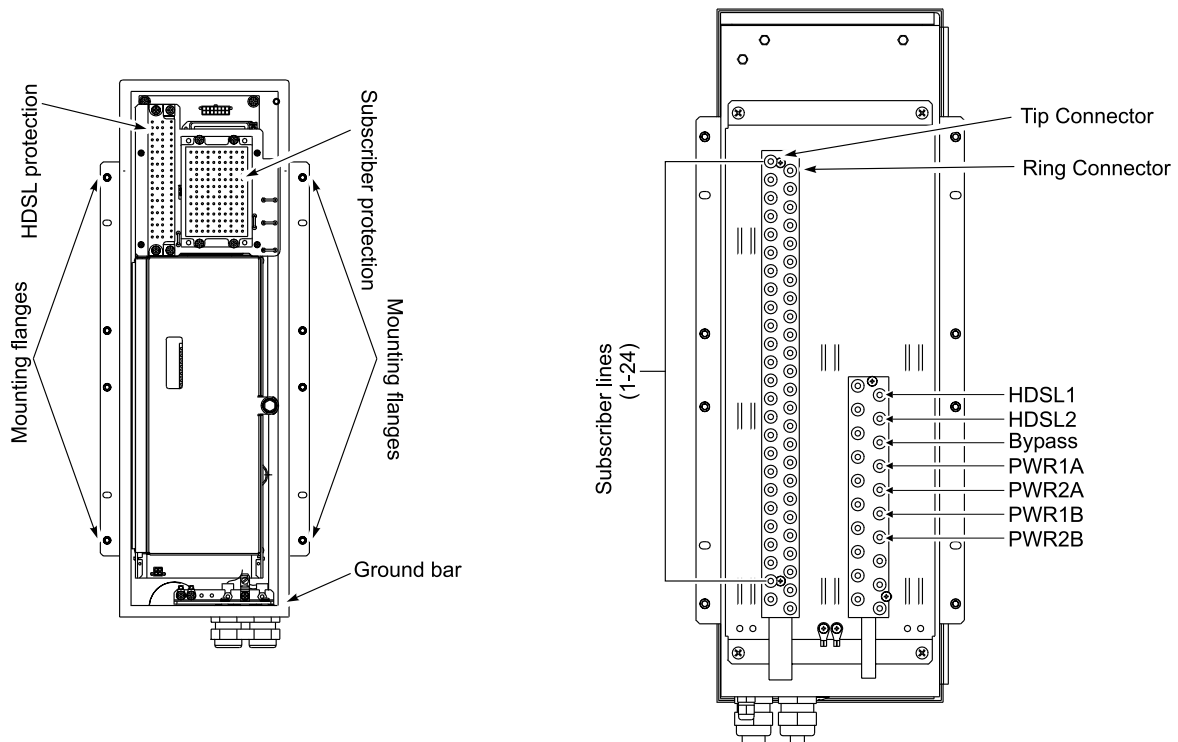

Figure 2. FRE-860 RT Enclosure and Termination Panel
- 2 Attach the RT Enclosure to the pedestal frame, using the mounting flanges (see Figure 2). Use the mounting hardware provided with the RT Enclosure. Follow local practices to ensure a secure mounting.
- 3 Termination points for Subscriber and HDSL wiring are on the back of the unit as shown in Figure 2 and detailed in Table 2.